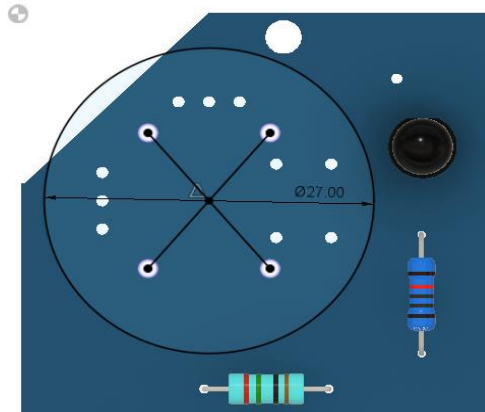

Fig. 6 Circle for Making opening in Transmitter Case
- Sketch two lines as shown in black as shown in Fig. 6, like the diagonals of a virtual rectangle. The intersection point will be the centre of the circle and will later serve as the sketch for making opening of joystick head on the upper face of the case.